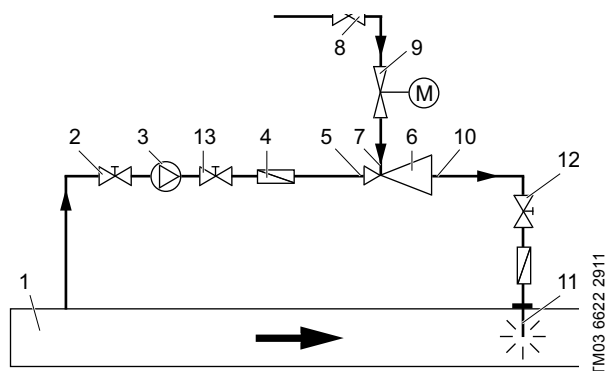

Fig. 3 System and components
5. Switch on the motive water pump. If water escapes from between the motive water pump (pos. 3, fig. 3) and the injection unit (9), there is a leak in the line.